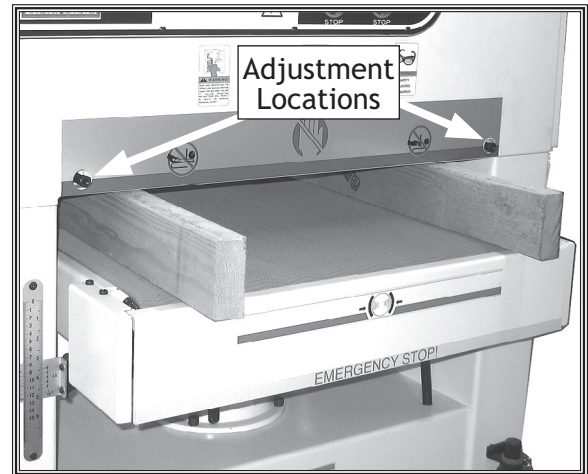

Figure 33. Gauge boards placed under pressure rollers.
5. Position each board on each side of the conveyor belt and directly below the front and back pressure rollers (see **Figure 33**).
6. Loosen the adjustment jam nuts and raise the pressure rollers above the sanding belt roller with the adjustment bolts shown in **Figure 33**.